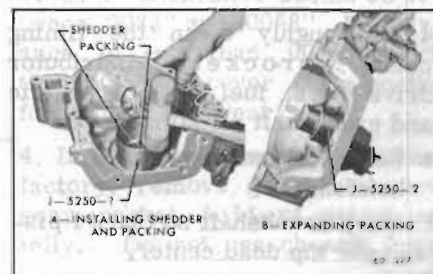

Figure 60-341—Installing Crankshaft Oil Seal
using Installer J-5250-1. See Figure 60-341, View A.
3. Push Packing Expander J-5250-2 through the seal to expand the packing into place and size the opening for the crankshaft. See Figure 60-341, View B. Apply a light coat of vaseline to the packing.